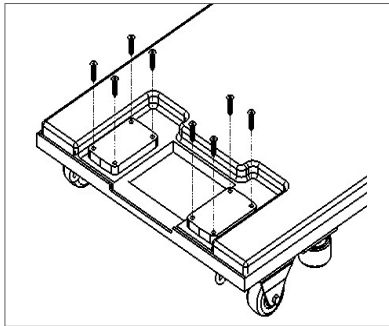

Figure 5
11. Remove screws and wood blocks from the new carriage. Discard the removed screws and wood blocks. See Figure 5.